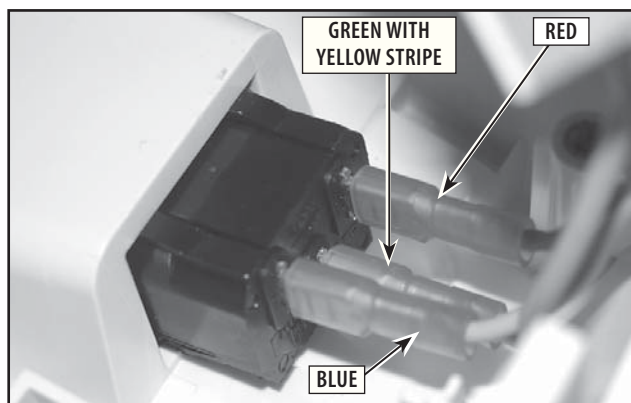

FIGURE 6.10
5. Lift Power Supply and disconnect the Power Supply Harnesses from the Mains disconnect. When removing the Harnesses from the Mains disconnect, note the locations of the wire plug ins. **Refer to Figure 6.10.**